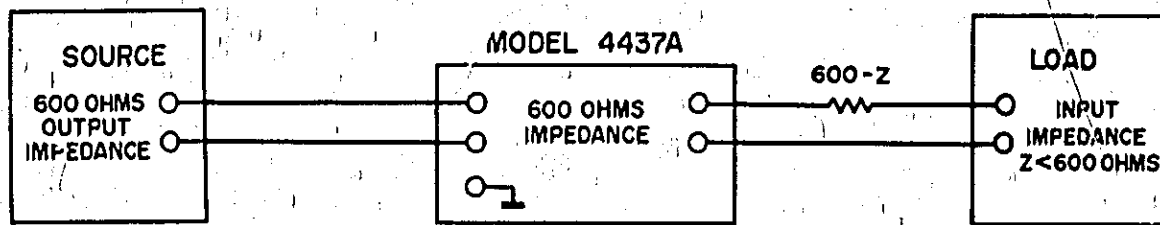

Figure 3-10. Simple Output Matching with Series Resistor
- a. When the impedance of the load is lower than that of the Model 4437A and the load is not affected by a mismatch, impedance match for the Model 4437A output can be obtained by inserting a series resistor between 4437A output and load as shown in Figure 3-10. Resistor value should be the difference between the Model 4437A output impedance and the load impedance.